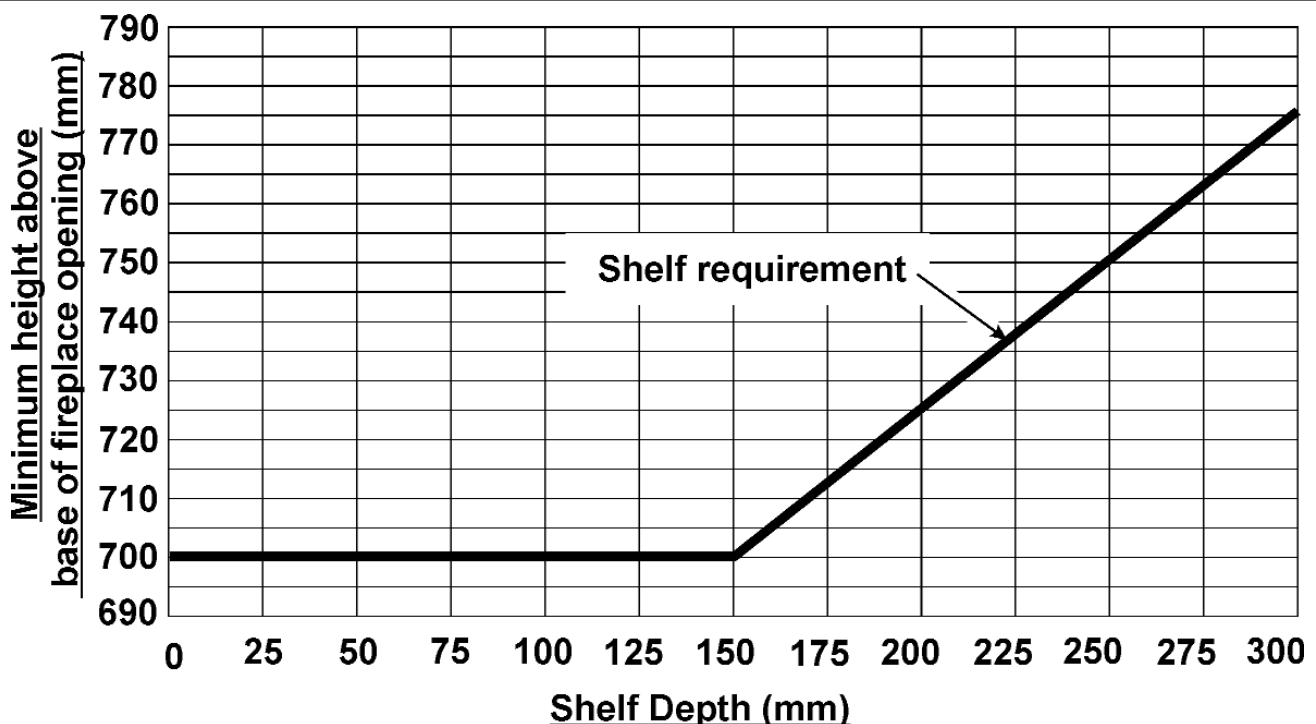

Figure 1. Combustible shelf clearances
Do provide a minimum clearance as shown in figure 1 above the base of the fireplace opening to any shelf made of wood or other combustible material. Please bear this in mind if you are making any alterations to the room.
• *For a shelf deeper than 150mm: 700mm + 12.5mm for every 25mm depth over 150mm (See Figure 1).*